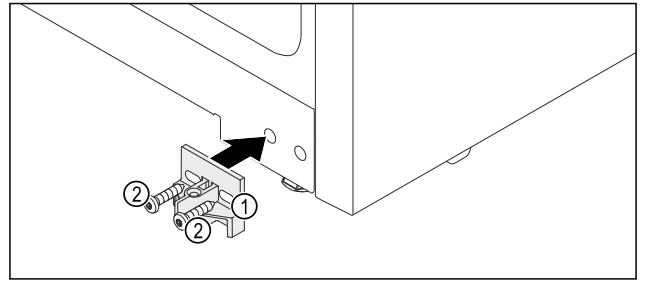

Fig. 17
- ▶ Fit the retaining part Fig. 17 (1) with screws Fig. 17 (2) on the opposite side of the device housing.